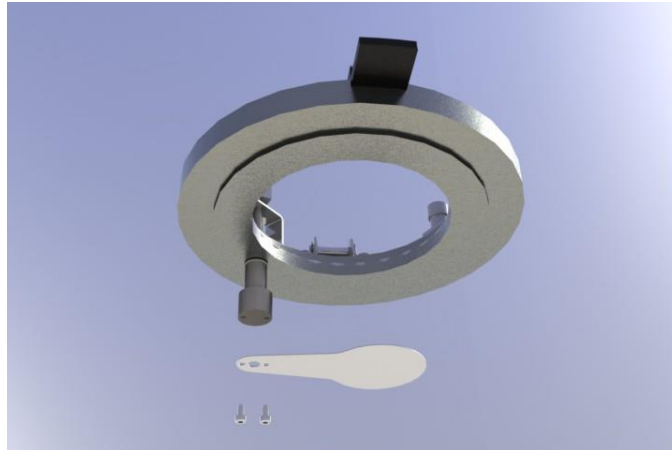

Figure 7-10. Removing the shutter
6. Remove the shutter by unscrewing the two retaining M3 screws (see **Figure 7-10**).